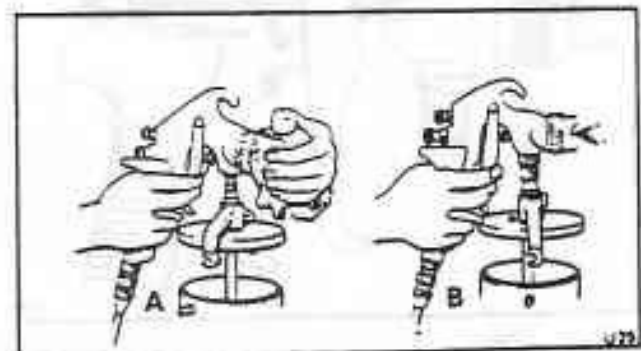

Fig. S17-37 Cleaning a suction feed spray gun
1. Suction feed gun. After spraying and whilst the gun is still connected to the compressed air supply, loosen the cup. With the fluid tube still within the cup, hold a piece of cloth lightly over the centre hole of the air cap (see fig. S17-37). Pull the trigger, the cloth pad will then turn back the compressed air through the fluid tube into the cup.
Empty the cup, allowing it a few moments to drain. Partially fill it with a suitable cleaning fluid and re-attach the cup to the gun. Spray the fluid through the gun in the normal way, but occasionally hold the cloth over the cap as before so that the cleaning fluid is surged backwards and forwards through the fluid passages, cleaning them thoroughly (see fig. S17-37).